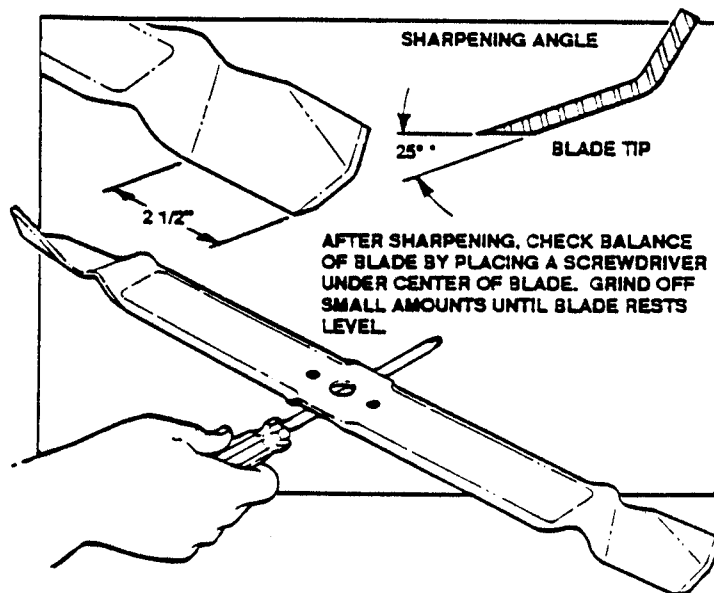

FIGURE 13
- Sharpen Blade when the cutting edges become dull if the blade is in otherwise good condition. When dull, the grass cut ends will be ragged and usually turn brown soon after mowing. For best results, remove the blade and sharpen it on a grinding wheel at an angle of 22 to 28 degrees. The cutting surface should extend in about 2 1/2" from the tips. Check the blade after sharpening to determine that it is still balanced. It will cause excessive vibration if unbalanced. See Figure 13.